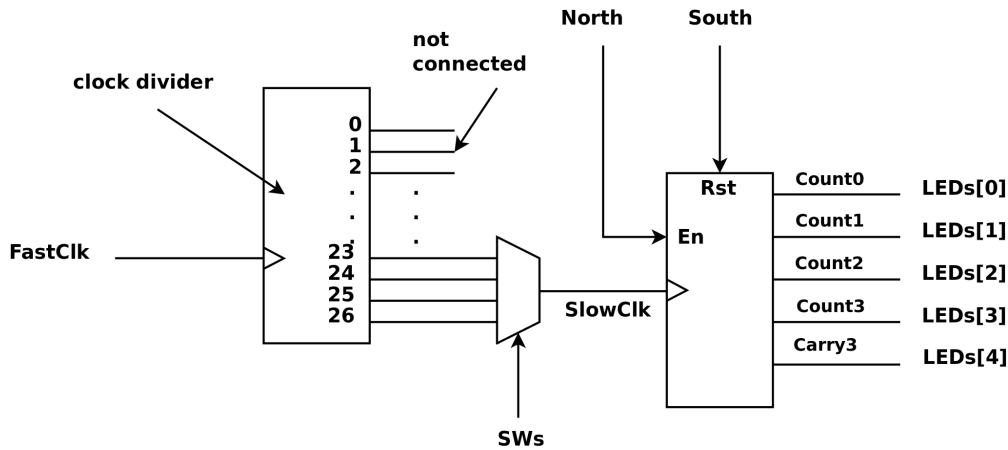

Figure 9: Top-Level Diagram
- Create a source file called “top\_level.v” and use the code snippet below to describe the circuit in Figure 9.
- (c) Create a file called “top\_level.ucf” and save it in your lab9 directory. Type the UCF starter code shown below. Unfortunately, portions of the UCF are missing. Using the UCFs from the previous labs and Figure 9 as a guide, fix this UCF. You may also find the Spartan 3E User Guide from Xilinx helpful.